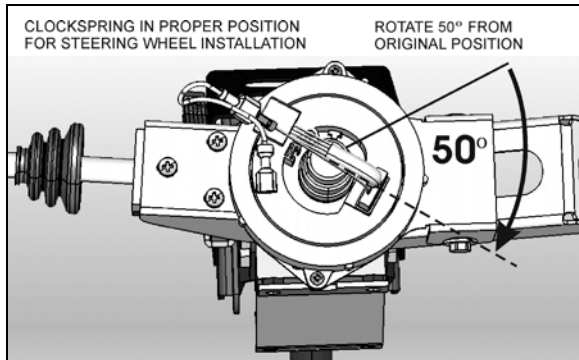

FIGURE 15: PROPER CLOCKSPRING POSITION
7. Break the paper seal and rotate the center part of the clockspring about 50° clockwise (Fig. 15). This step is necessary for the installation of the steering wheel.